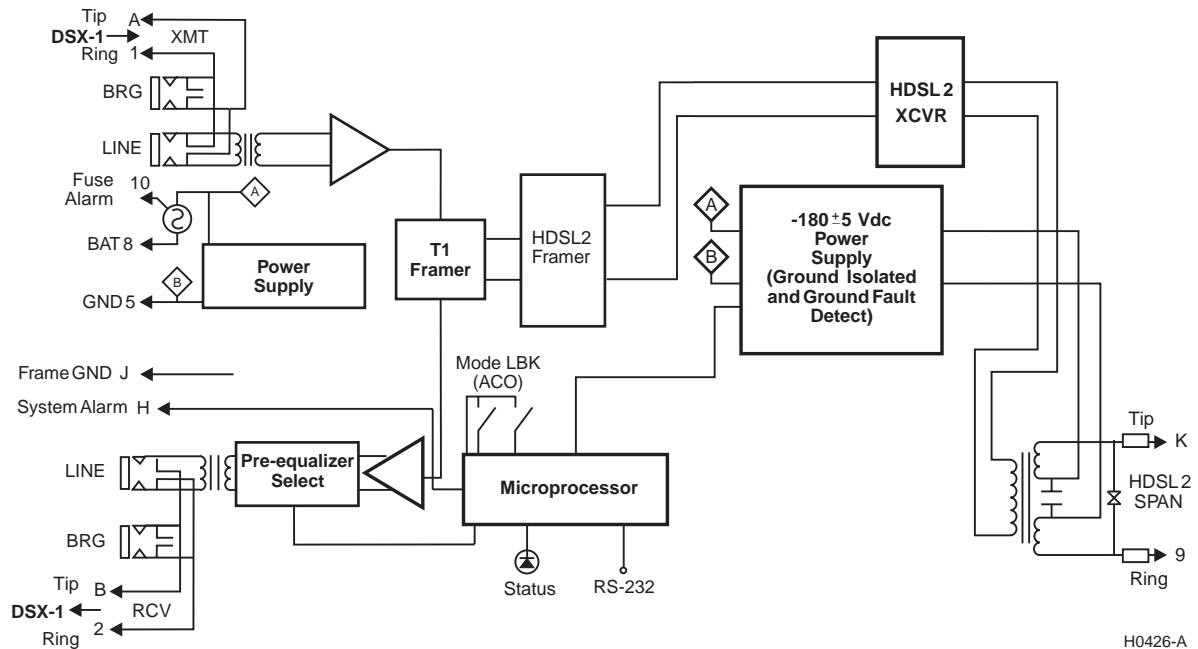

Figure 40. Block Diagram
Figure 40 shows the H2TU-C block diagram. The H2TU-C receives a 1.544 Mbps DSX-1 data stream from the DSX-1 digital cross-connect interface. The H2TU-C contains a DS1 frame synchronizer controlled by an 8-bit microprocessor that determines the type of framing on the DS1 stream. The H2TU-C synchronizes to the type of framing detected. The H2TU-C recognizes SuperFrame (SF), including D4 or Extended SuperFrame (ESF).